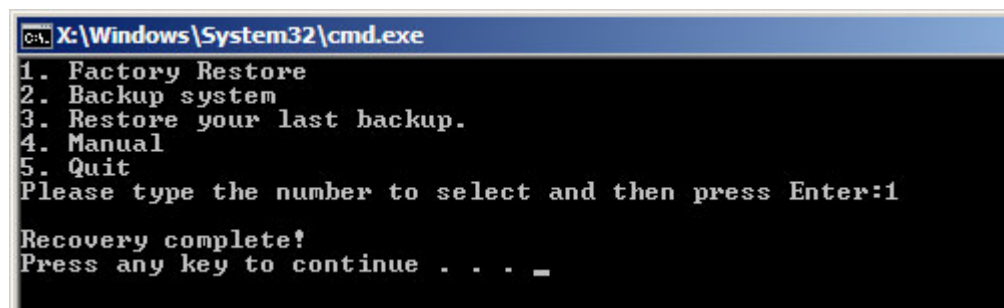

Figure B-36: Recovery Complete Window
Step 3: The screen is shown in **Figure B-36** appears when completed. Press any key to reboot the system.